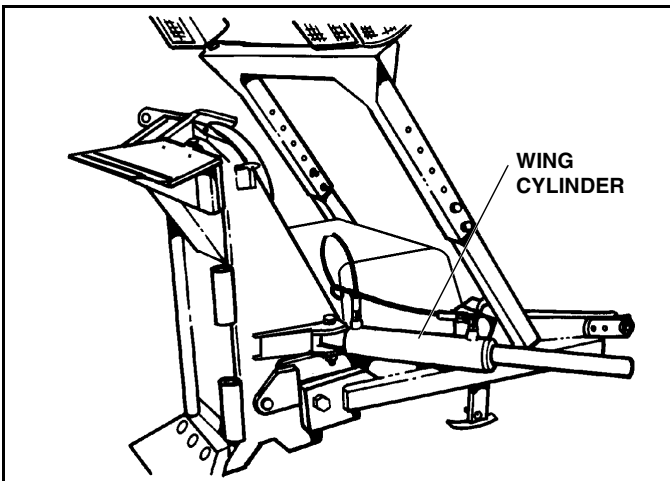

Figure 1-3
3. Swing the wing cylinders out to the side so they will be out of the way for installing the wings. (See Figure 1-3)